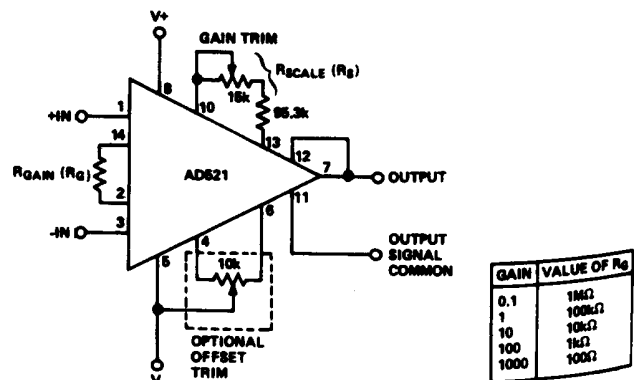

Figure 2. Operating Connections for AD521
1. Gains below 1 are realized by adjusting the gain setting resistors as shown in Figure 2 (the resistor, R_G between pins 10 and 13 should remain $100k\Omega \pm 15\%$, see application note 3). For best results, the input voltage should be restricted to $\pm 10V$ even though the gain may be less than 1. See Figure 6 for gains above 1000.
3. The resistors between pins 10 and 13, (R_{SCALE}) must equal $100k\Omega \pm 15\%$ (Figure 2). If R_{SCALE} is too low (below $85k\Omega$) the output swing of the AD521 is reduced. At values below $80k\Omega$ and above $120k\Omega$ the stability of the AD521 may be impaired.
The offset trim adjustment (pins 4 and 6, Figure 2) is associated primarily with the output offset. At any gain it can be used to introduce an output offset equal and opposite to the input offset voltage multiplied by the gain. As a result, the total output offset can be reduced to zero.